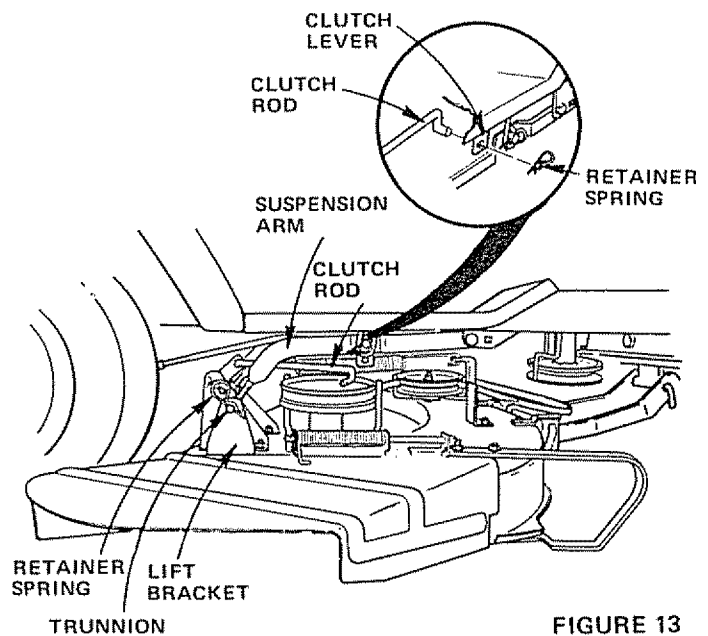
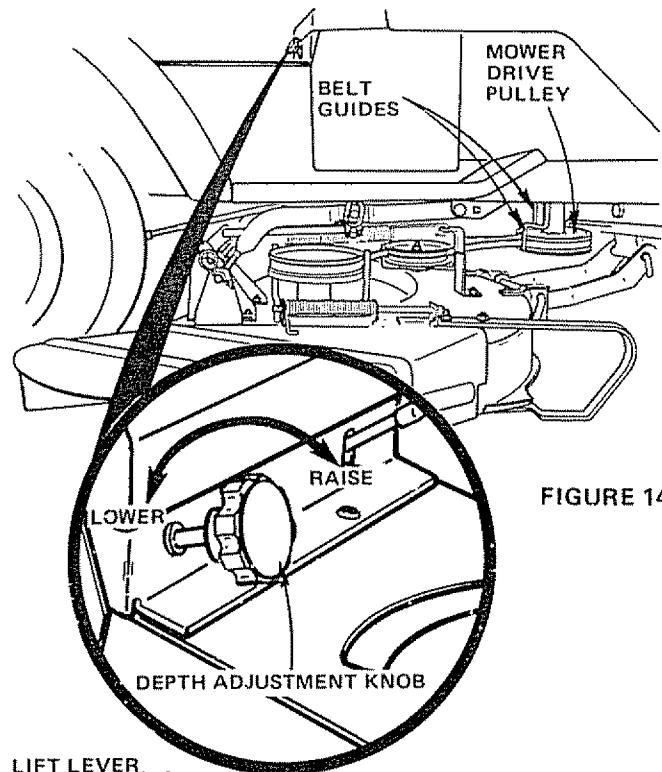
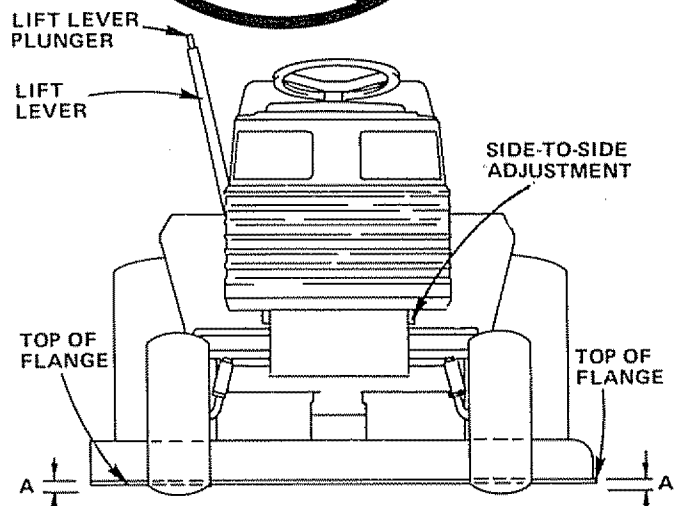

FIGURE 13
FIGURE 14
FIGURE 15
Your 38" Mower installs without the use of tools. Raise Lift Lever (Fig. 15) to its highest position. Turn Depth Adjustment Knob to lowest position (Fig. 14).
3. Install Clutch Rod in Clutch Lever (Fig. 13 - Inset).
4. Move Lift Lever (Fig. 15) forward to lower Suspension Arms. Slide Trunnions through Lift Bracket holes and secure with Retainer Springs (Fig. 13).
5. Roll Belt over Mower Drive Pulley. Make sure Belt is inside Belt Guides (Fig. 14). See Belt Drive Schematic Decal on Mower Housing.
6. Use Lift Lever (Fig. 15) to raise mower.
2. Measure height of Top of Flange to level surface at front of mower. Distance "A" should be the same (Fig. 15).
5. Use Lift Lever to lower mower into cutting position. Start mowing in the first gear and increase ground speed as conditions will permit. Average cutting height is approximately 2 - 1/2 to 2 - 3/4 inches. Height of cut can be adjusted by means of the Depth Adjustment Knob. Moving the Knob clockwise (↻) raises the mower (Fig. 14 - Inset). Moving the Knob counterclockwise (↺) lowers the mower.